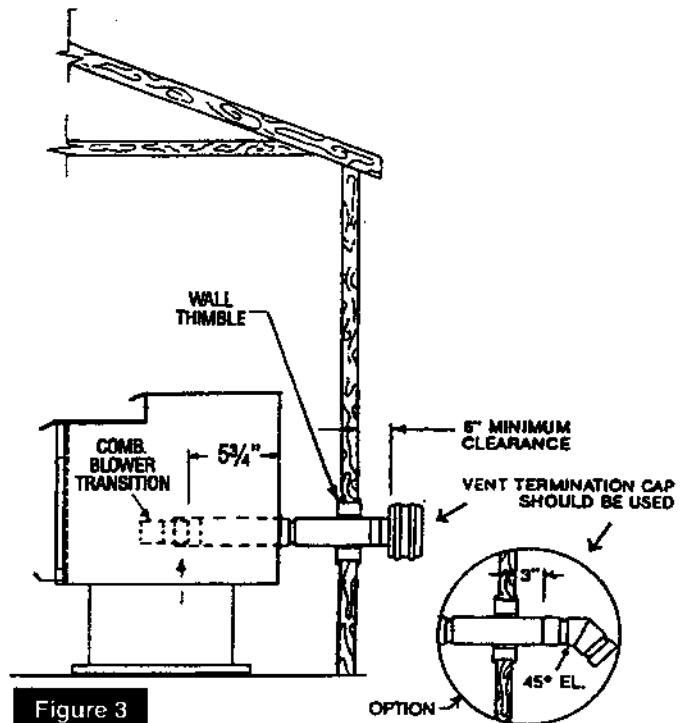

Figure 3
A. HORIZONTALLY THROUGH WALL (see figure 3)